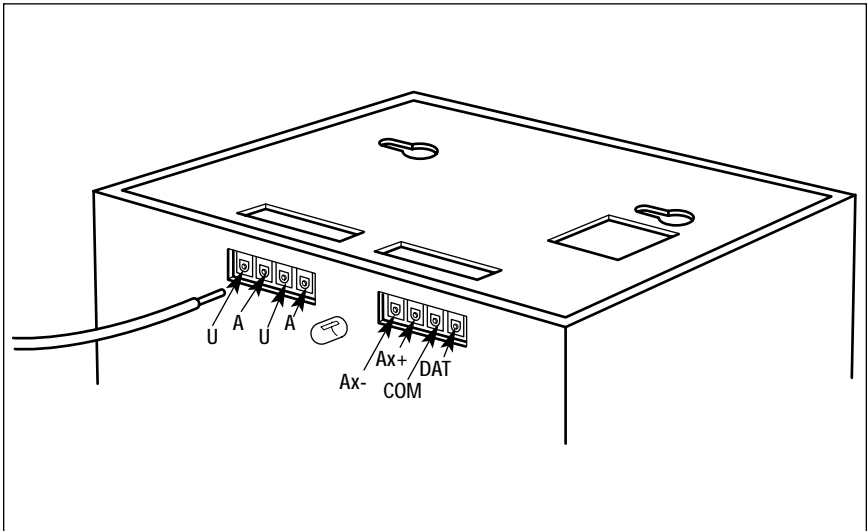

Figure 2. Power connections
Your Log Loader was designed to operate at 16-18 volts (AC). The power supply terminals are located along the side of the controller. Refer to Figure 2. Please note that the ends of the wires must be stripped back 1/8" to 1/4".